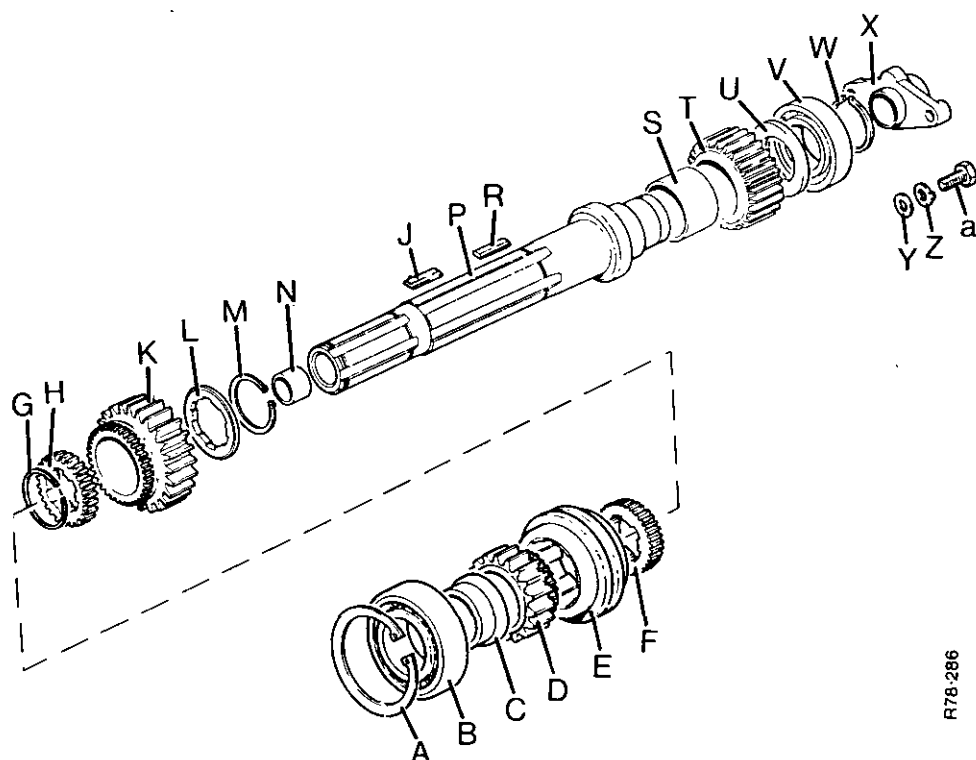

FIGURE 84. TOPSHAFT ASSEMBLY 1410 TRACTOR
L. Bearing pad (6)	Y. Shaft
11. Assemble the topshaft as follows; see Figure 84.